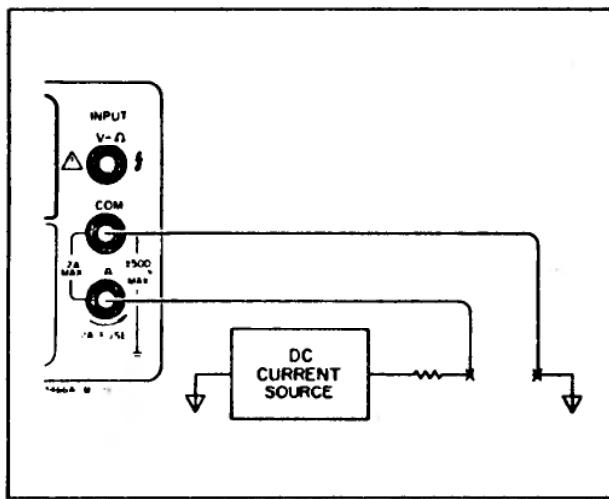

Figure 3-8. DC Current Measurements
- Connect test leads from the Multimeter A and COM terminals in series with the current under test as shown in Figure 3-8.